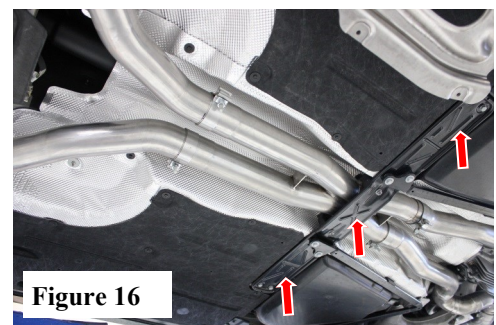

Figure 16
6. Reinstall center support using factory hardware. (See Fig. 16)